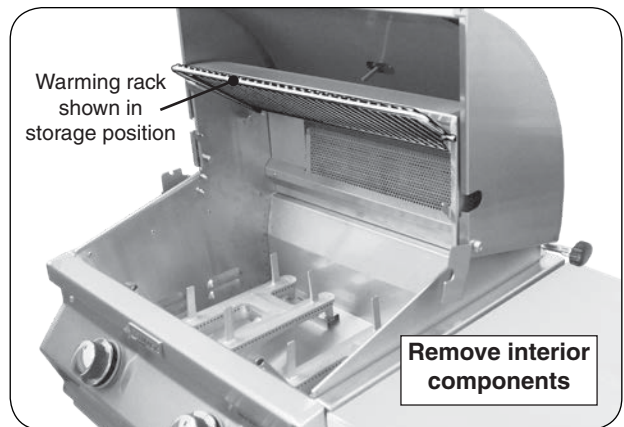

Fig. 29-1 Prepare grill for rotissing
1. Set the warming rack to storage position, remove the backburner cover and cooking grids (see Fig. 29-1).